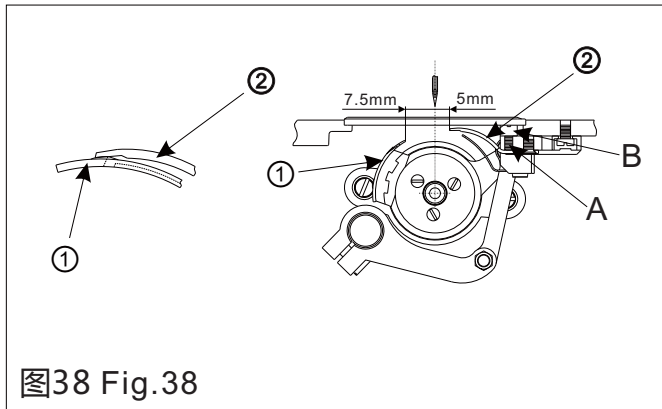

图38 Fig.38
- 2) Set the solenoid active, turn the trimming cam ① until the cam is touched with the roller of the cam lever ②, then fix the cam.
- 3) Set the solenoid inactive and make the lever ② restore to the original position, there should be a 0.5~1.0mm clearance between the cam ① and the roller of the cam lever ②.
6. 刀片的调整 (图38)